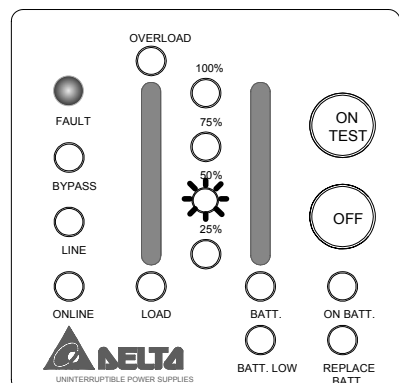

Figure 3-15 (Inverter U.V.P.)
- ✓ When under (or over) voltage is happened in the UPS output. This kind of fault will be detected by the microprocessor in the UPS and is so-called “**U.V.P**” (“**O.V.P**”). Show as Figure 3-15, 3-16.